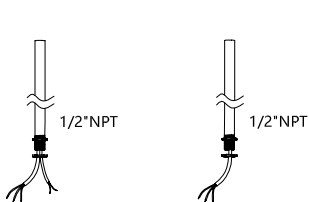

FIGURE 8
1. Unscrew the nuts on the 1/2" NPT (Figure 8).